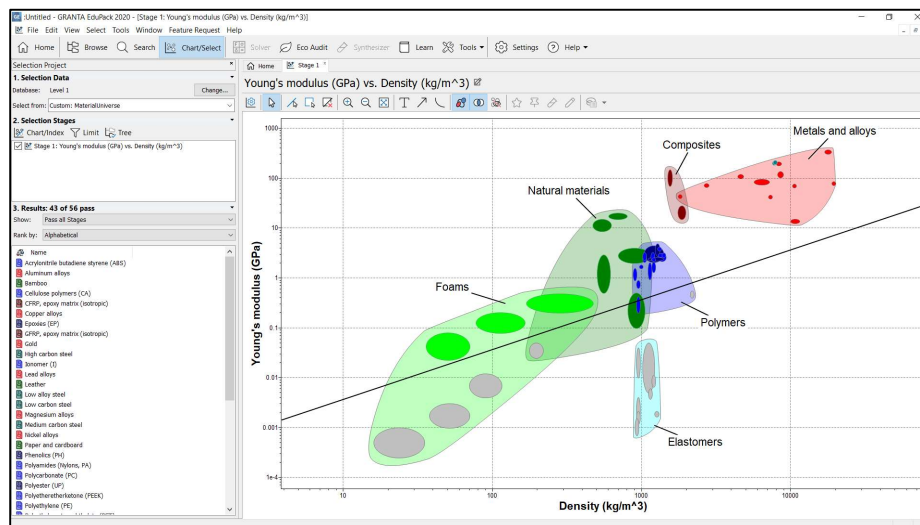

Figure 7. A screen of the Granta EduPack interface
- Selecting a material using the ANSYS-Granta EduPack material selector (Figure 7)